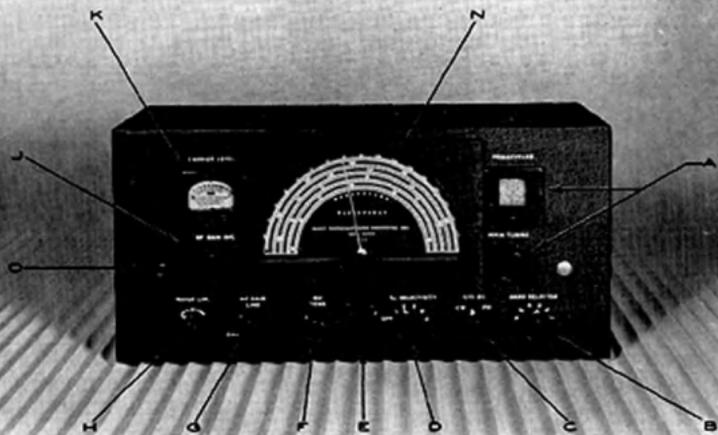

Fig. 1 — Front View
After the operator has made certain that the tubes are well seated in their sockets and in good condition mechanically, and the speaker has been inserted in its respective socket and the antenna terminals connected up properly to the type of antenna which it is desired to use, the control marked AF GAIN LINE ("G" Figure 1) should be set to the maximum counterclockwise position which is the "off" position insofar as the power to the receiver is concerned.
Before turning on the set for the first time it will be well to set the various controls as follows: Referring to Figure 1 the Band Selector (B) is turned to position 1; Stand-by switch (C) in center position; Xtal Selectivity (D) to "off"; and RF Gain- Δ VC (J) to maximum clockwise position until the switch clicks. The function and operation of the various controls will be discussed in detail later on.
The main tuning control and scale ("A" Figure 1) is used for most of tuning except when using the band spread scale. The tuning knob is connected to the tuning condenser by a planetary drive and a set of pre-loaded gears. This system allows smoother control with back-lash reduced to a negligible amount. The scale is very accurately calibrated on all six bands and is divided into convenient divisions between the cardinal points for accurate reading. The scale is calibrated on all bands in megacycles. That is, 1000 kilocycles.